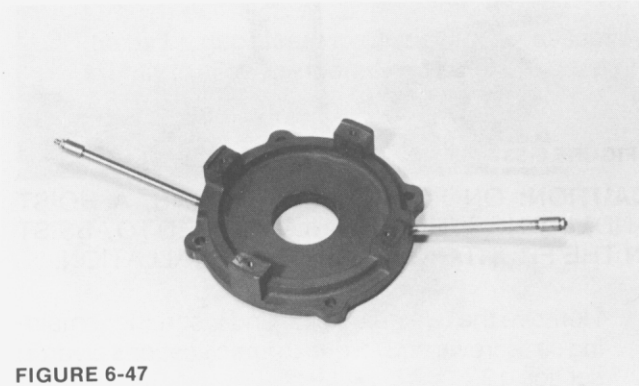

FIGURE 6-47
1. Remove the filler and drain grease pipes and the grease plugs from outer bearing cap. (Figure 6-47.)
clean, and free of any burrs or rust. That could interfere with proper alignment. (Figure 6-47 and 6-48.)